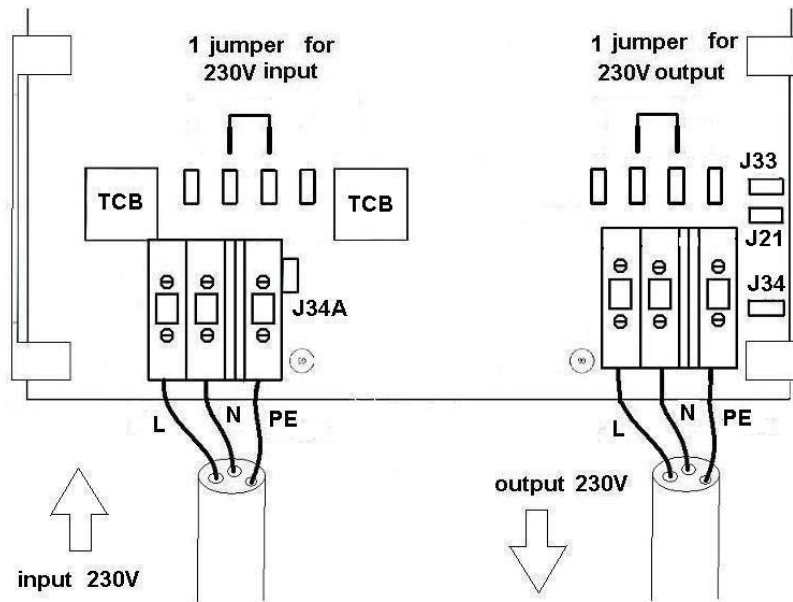

Figure 2: Jumper settings for 230/240 V input and/or output
2.2.1. For 230/240 V input and/or output, connect the push-on jumpers as shown in fig 2.